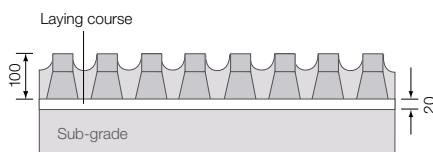

Fig 1. Light vehicular trafficked – no sub-base.
- ▶ No sub-base required (for lighter loadings only) (see Fig 1)